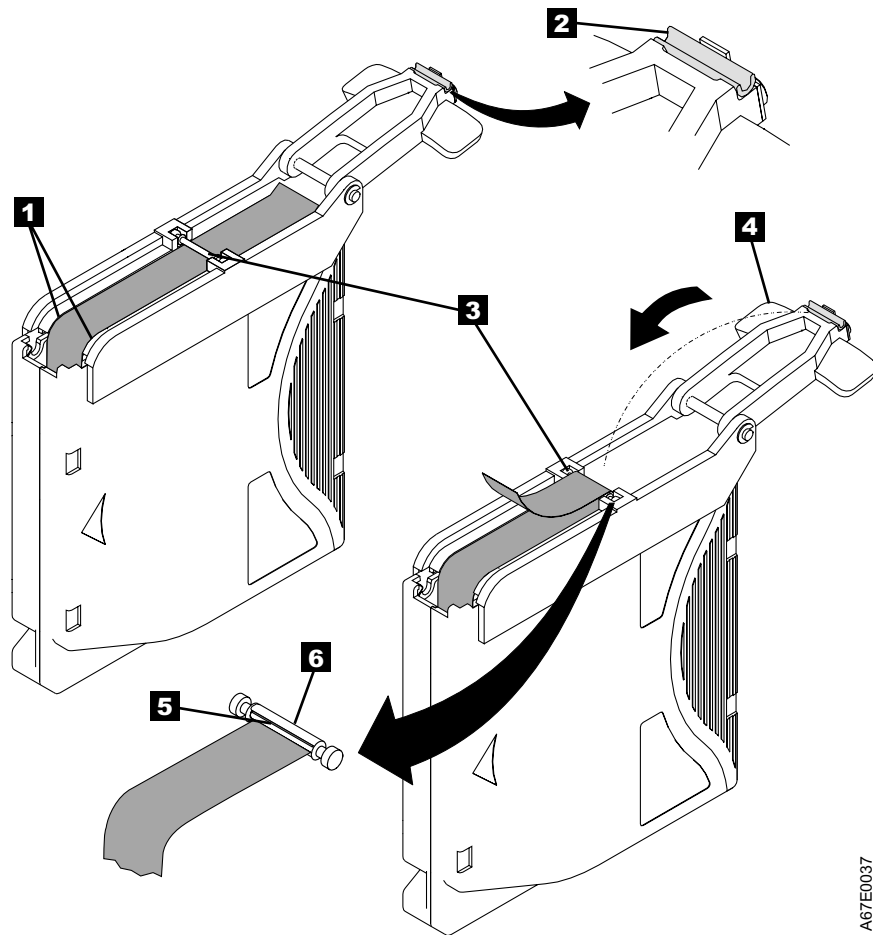

Figure 20. Attaching the leader pin to the tape
7. Position the tape in the alignment groove of the leader pin attach tool (see **1** in Figure 20).
8. Place a new C-clip into the retention groove **2** (Figure 20) on the leader pin attachment tool and make sure that the clip's open side faces up.
9. Place the leader pin (from step 6 on page 39) into the cavity **3** (Figure 20) of the leader pin attach tool.
10. Fold the tape over the leader pin and hold it with your fingers (see Figure 20).